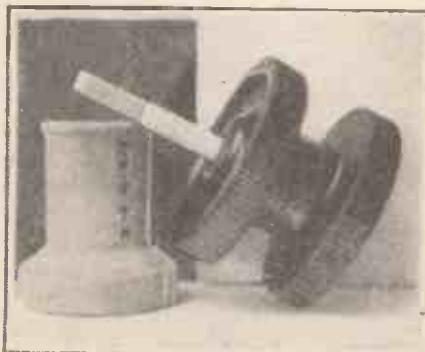
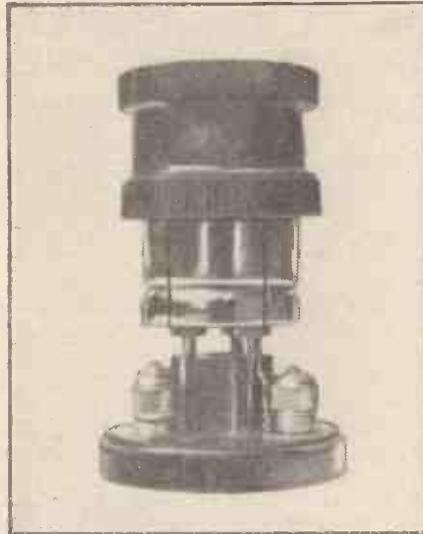
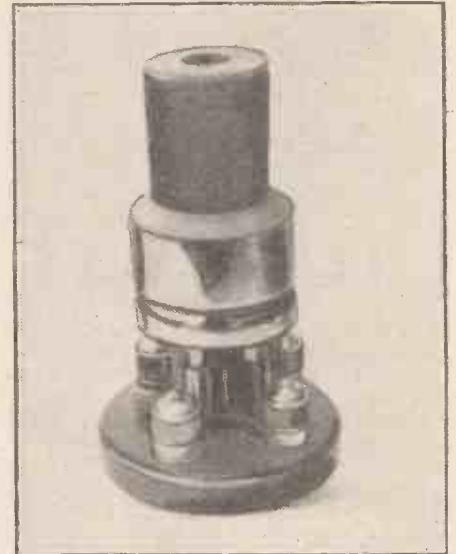

Fig. 6. Commencing another form of aperiodic H.F. transformer.
Fig. 7. The finished transformer.
Fig. 8. A useful tapped fixed resistor.
Fig. 6 shows the two formers required for making (A) a more compact form of aperiodic H.F. transformer (Fig. 7), and (B) a tapped fixed resistor (Fig. 8). The first-mentioned consists of two large ebonite
The former for the tapped resistor (Fig. 8) consists of a wooden cotton reel which is cut to the form shown on the left of Fig. 6,